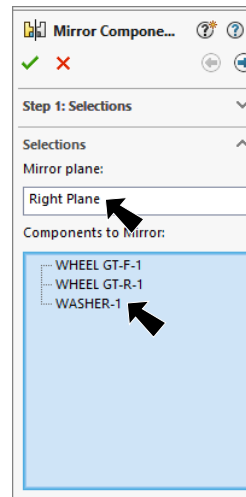

Fig. 21
Step 4. In the Mirror Property Manager click **OK** , **Fig. 21**.